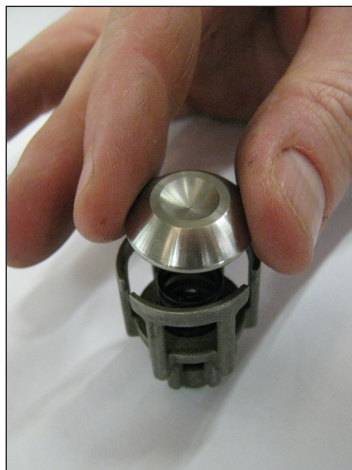
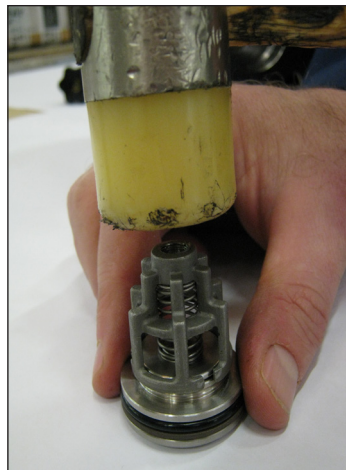

Fig. 24
Fig. 25
- 1 **Do not invert the suction springs with the previously disassembled outlet springs during assembly of the suction and outlet valve units (Fig. 24, Fig. 25):**